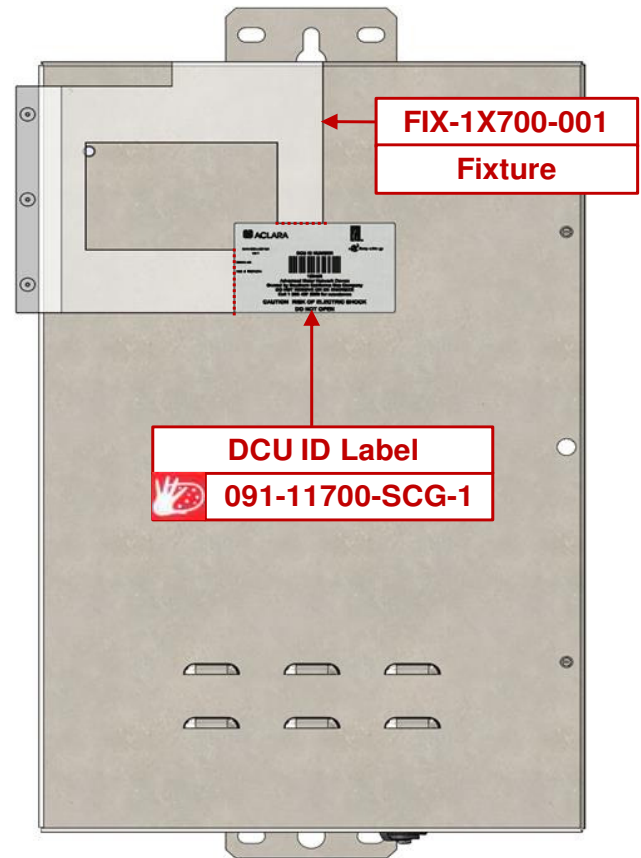

Figure 7: Install DCU FCC/IC ID Label
4.3.1 Refer to **Figure 7** for installation of the DCU FCC/IC ID label.